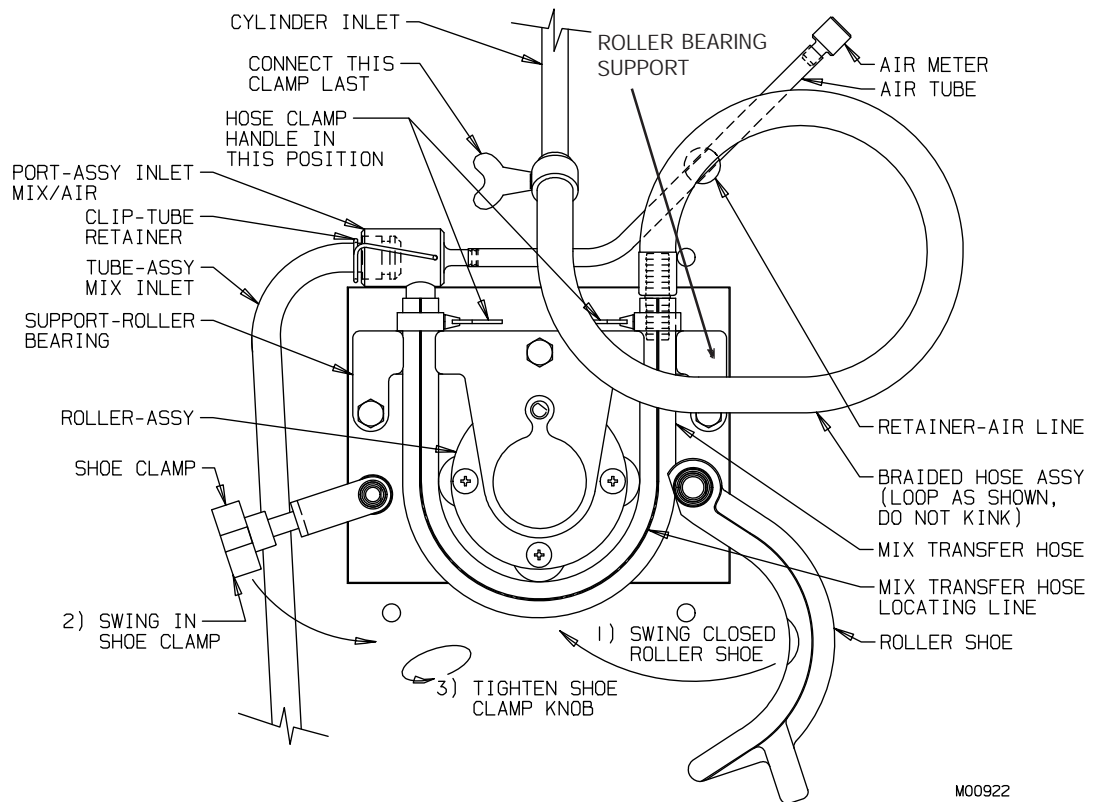

Figure 7-7 MTS
18. Refer to figure 7-7. Always begin with the left side MTS hose assembly first. Install the MTS hose assembly by first placing the clamp next to the braided hose, above the roller bearing support on the right side and push hose into slot. Place the transfer hose under the rollers. While holding the pickup tube stretch the hose so the left hand clamp is above the roller bearing support and push the hose into the slot.
19. Check to ensure the transfer hose is straight and centered on the roller assembly making sure the locating line is facing out. The line should be in the same position at the inlet and outlet guides of the roller bearing support, as shown in figure 7-7.